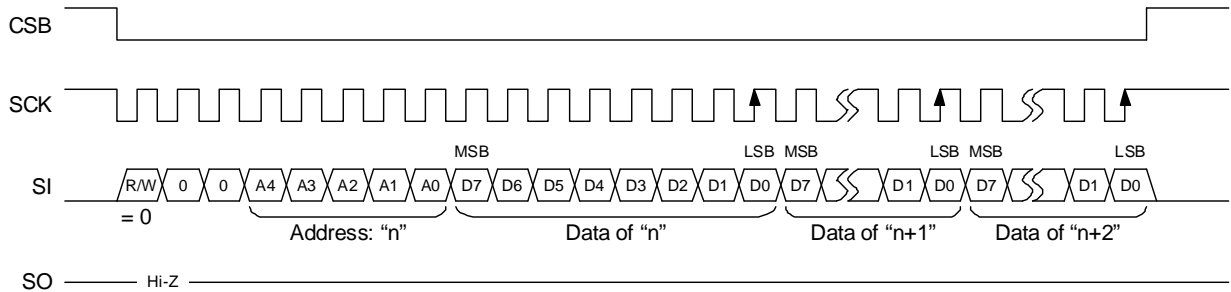

Figure 14.2 Current Address Access Mode Input Timing Chart
- This mode holds the A[4:0] address value in the address counter for both read and write, and increments the address value by “+1” at the timing when D0 is loaded to the register. D[7:0] data write is executed at this same timing, and data write is performed in byte units thereafter (at the timing indicated by ↑ in Fig. 14.2).